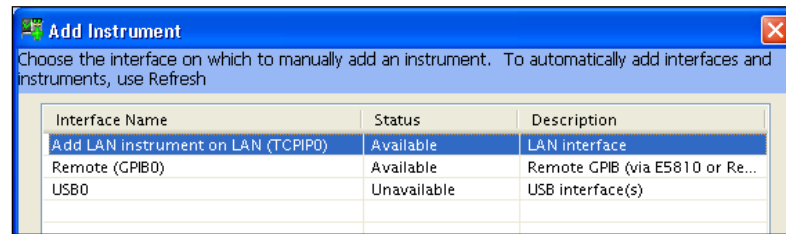

FIGURE 9-5: ADD INSTRUMENT INTERFACE
- 9) Connect the function generator, external DMM, and calibrator to the DMM as shown in Figure 9-5 using the EX1200 DMM calibration/verification cable (VTI P/N: 52-0807-000).